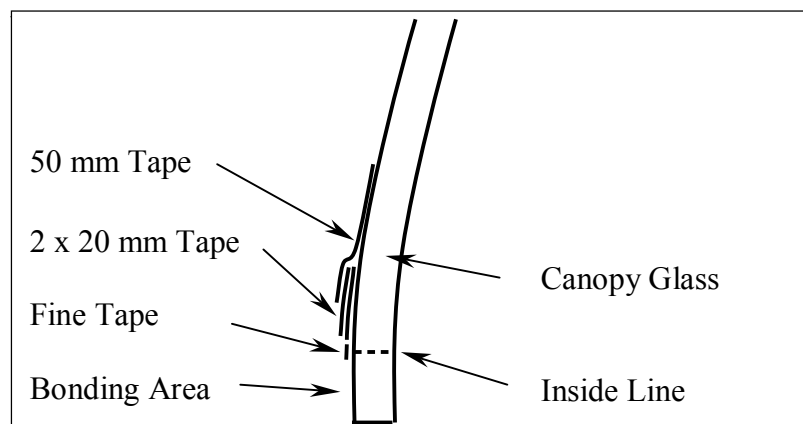

Figure 9 *Canopy Tape Markings*
- 10 For protection purposes, place 3 layers of tape as depicted in figure 9.